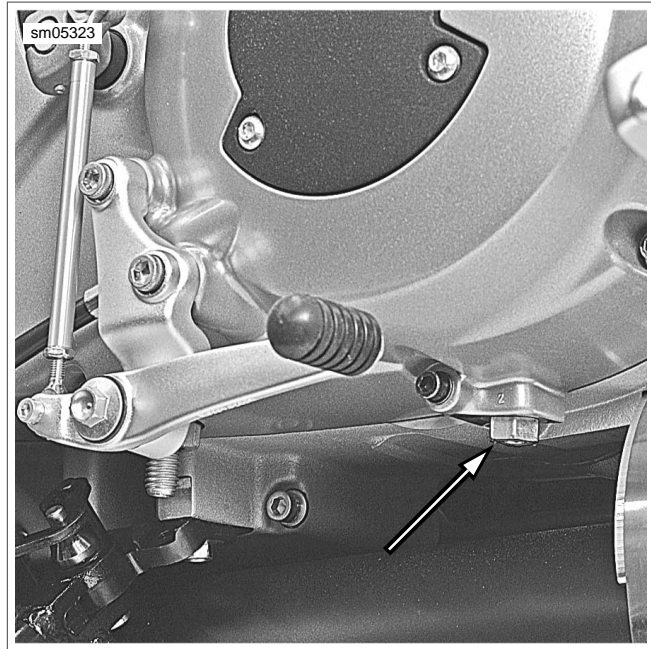

Figure 1-26. Primary Drain Plug: XB Models
2. See Figure 1-26. Position a suitable container under drain plug. Remove plug and drain fluid.